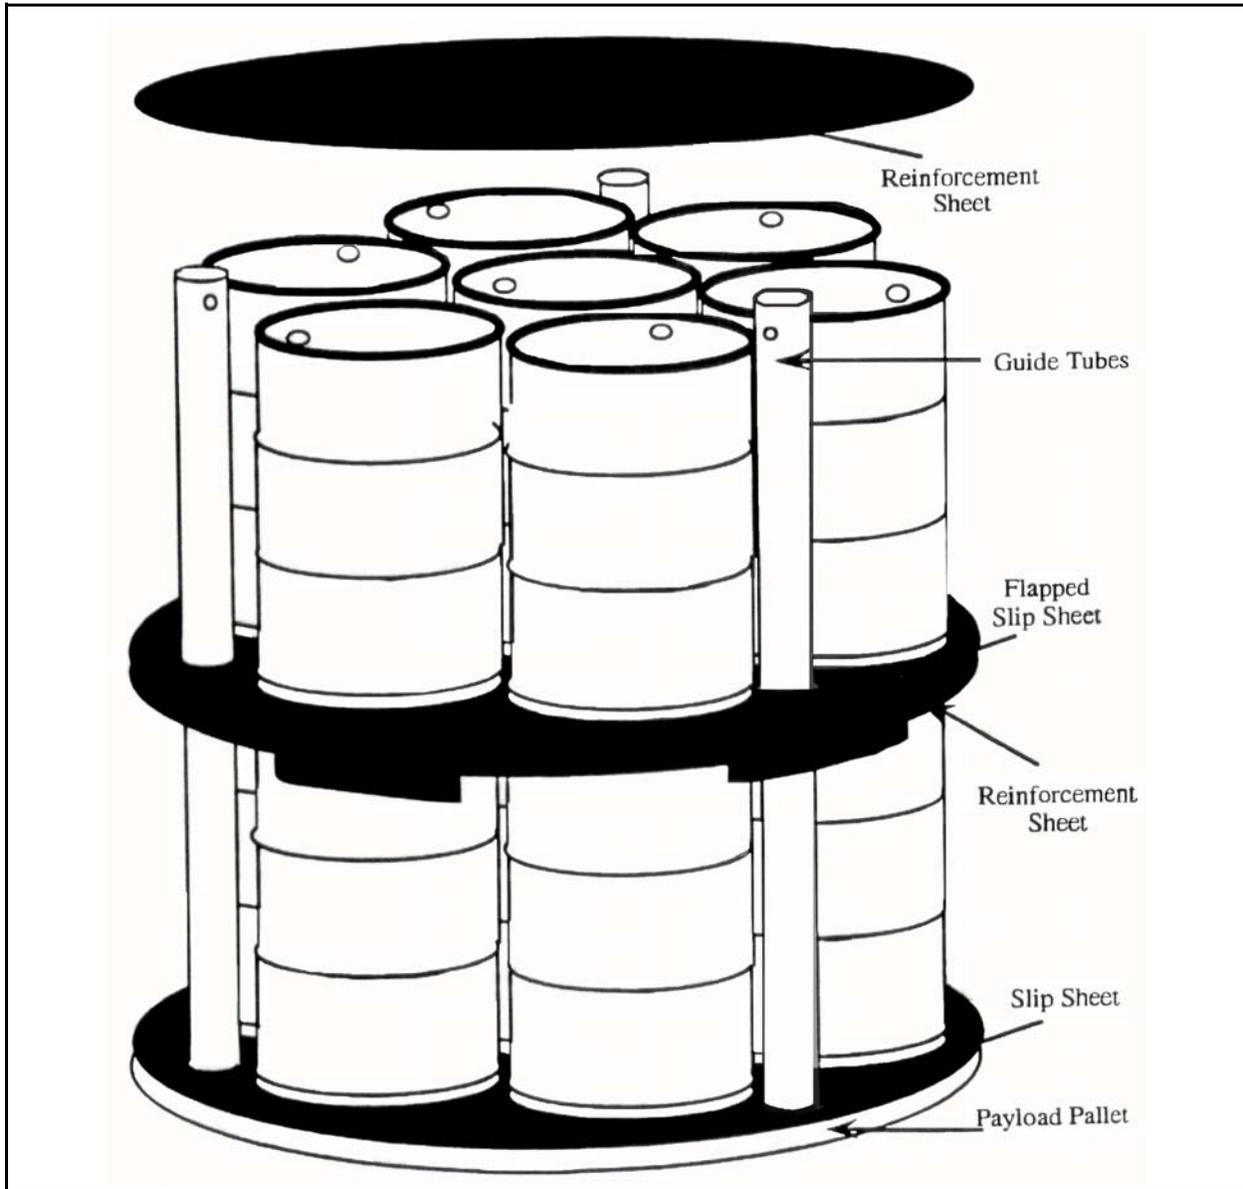

Figure 1.3. SWB Adjustable Lifting Slings
- One on the middle clip on the opposite side (see Figure 1.3, SWB Adjustable Lifting Slings)